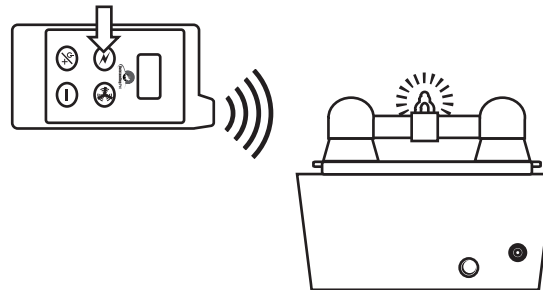

figure 5 – Receiver Collar Test Light Turning On
- Press the  button on the Remote Transmitter, the Test Light will turn on (*figure 5*).